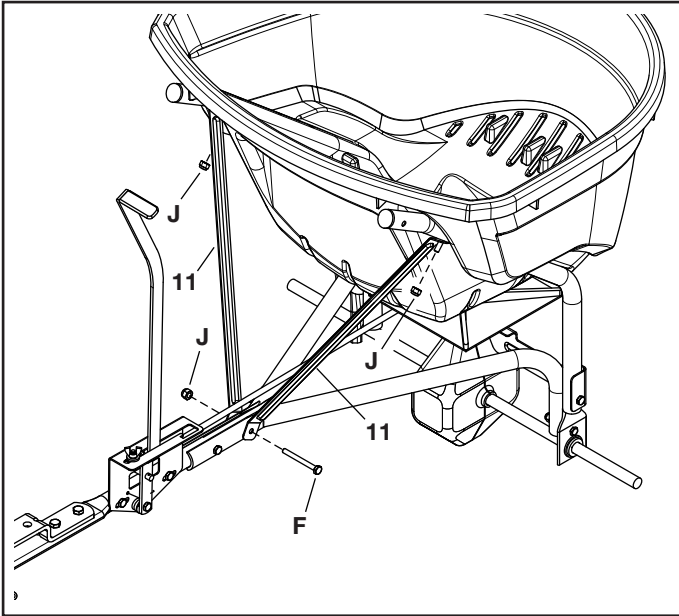

FIGURE 13
STEP 13: (SEE FIGURE 13)
- Fasten the hopper braces (11) to the hopper support tubes using the nylock nuts (J) that were assembled earlier. **Do not tighten completely.**
- Fasten the loose ends of the hopper braces to the hitch tube using a 1/4" x 3-1/2" hex bolt (F) and a 1/4" nylock nut (J). **Do not tighten completely.**